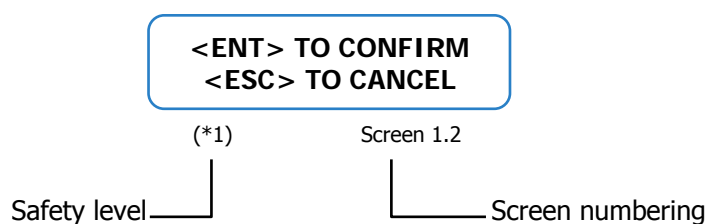

Fig.20. Notes related to the screens.
- Notes related to the screen map (see figure 20):